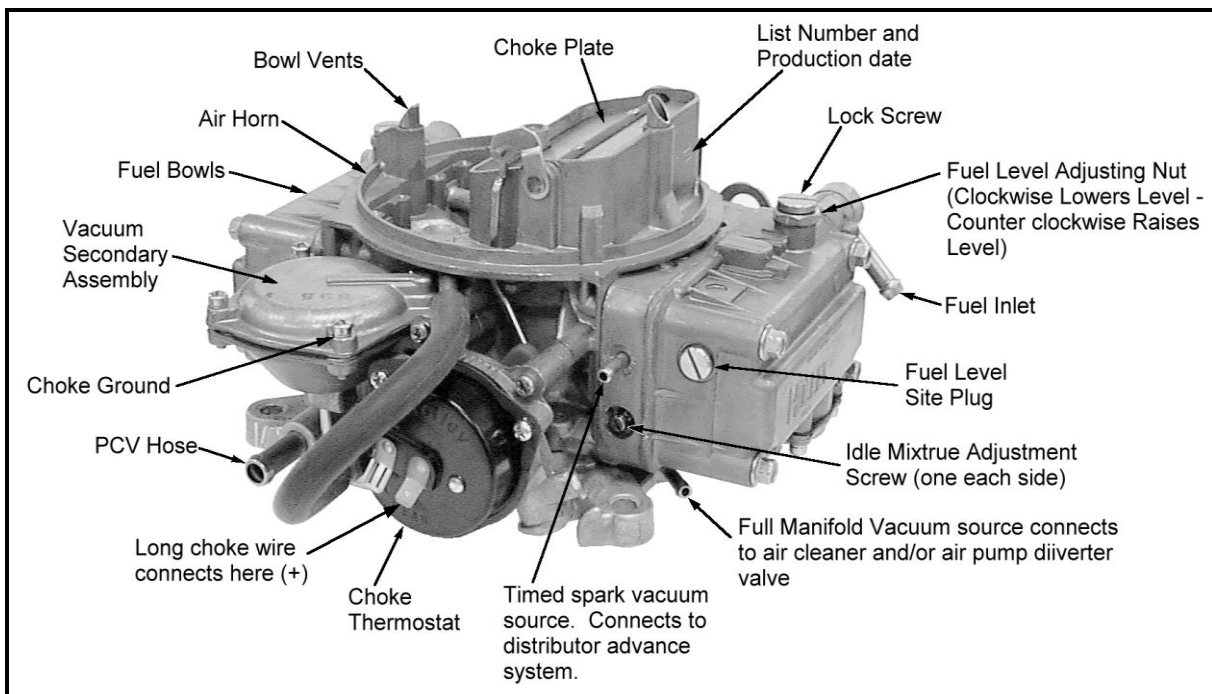

Figure 4 – Typical Photo Representation – Unit May Vary in Features
6. Reconnect all vacuum lines and electronic wires that were labeled in the removal of the old carburetor. Use Figure 4 as a guide to locate connections. The full manifold vacuum source in the front of the throttle body provides vacuum for proper operation of the air cleaner, the air pump diverter valve (if the vehicle is so equipped) and/or the temperature sensing valve. The timed spark fitting in the choke side of the primary metering block provides vacuum for operation of the distributor vacuum advance. Connect the hose to the distributor, spark delay valve and/or temperature sensing valve. If vacuum for more than one component is needed plastic "T's" (available at most automotive part stores) maybe used to complete the installation.
7. Connect the PCV hose to the PCV fitting in the carburetor. See Figure 4. If the intake manifold has no provision for power brakes, the power brakes hose can be "Tee'd" to this fitting. Connect solenoid wire to the original source wire.